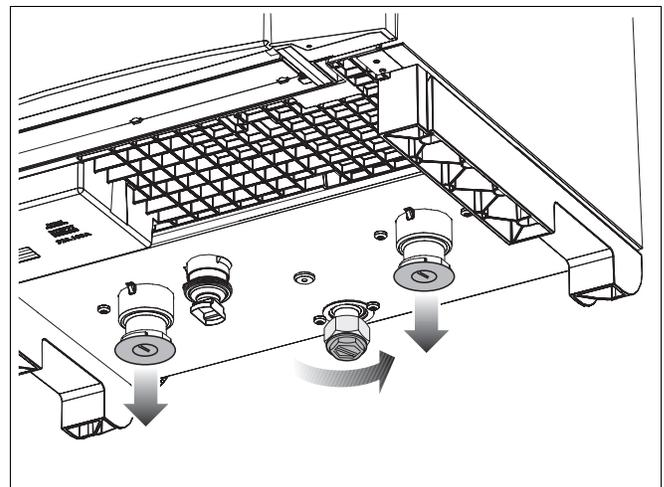

Fig. 9 Removing the covers – boiler bottom
- Remove the protective covers from the bottom of the boiler (fig. 9).